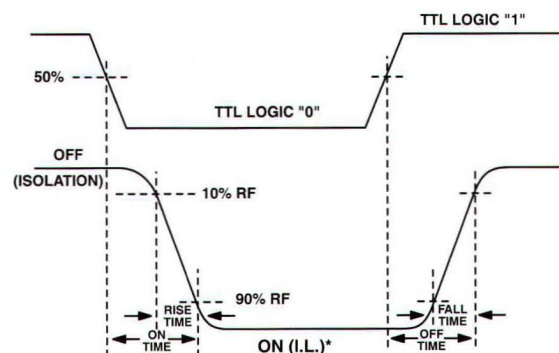

Figure 3 - Detected RF Power
a) **Rise Time And Fall Time:** These parameters, fundamental to many designs, are actually composed of several subsets, each one defining the time required for switching to take place between two states in the switch response (Figure 3). Rise time is defined as the